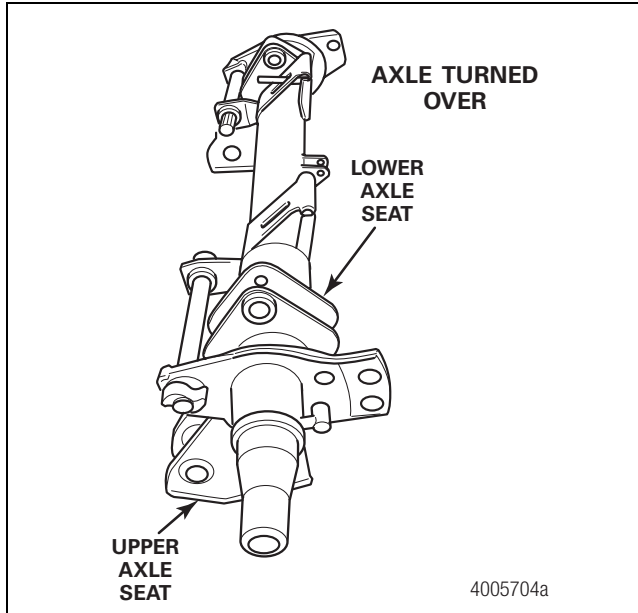

Figure 3
15. Turn the axle over. Set it on a flat surface, so that it rests on the air spring seats. Figure 3.